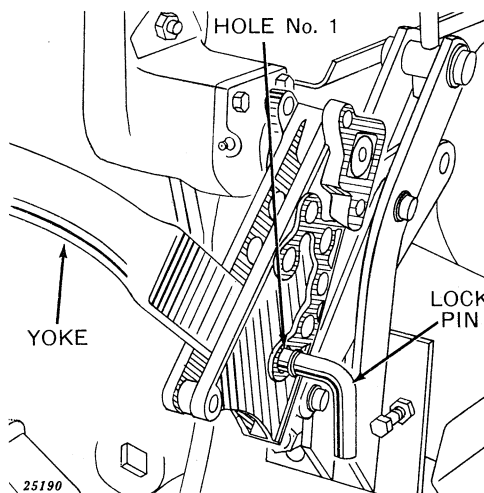

Figure 7—Yoke and Lift Arm Adjustments
For all model tractors set carrier yoke lock pins in hole No. 1 of rockshaft lift arm castings. See Figure 7. See also "Special Plowing Instructions," page 12.
1. Rock shaft lift arm adjustment—Change the rock shaft pins holding the yoke to the arms, to hole No. 2 or even No. 3 or No. 4 in some very extreme cases (See Figure 7, page 6).